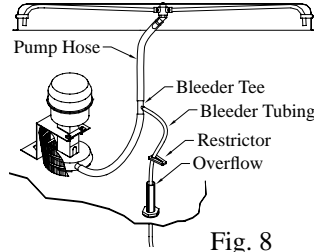

Fig. 8
- **Install Bleeder Tee and Tubing.** Refer to figure 8. Cut the pump hose and insert the barbed ends of the bleeder tee into each cut end. Insert one end of the bleeder tubing onto the bleeder tee and run the other end out of the cooler through the overflow pipe. **Note:** A restrictor clamp is provided which, if desired, may be installed onto the bleeder tubing to restrict the amount of water being bleed off. The amount of water to bleed off depends on the quality of the water in your area. Start with 1-2 gal/hr and increase if needed.